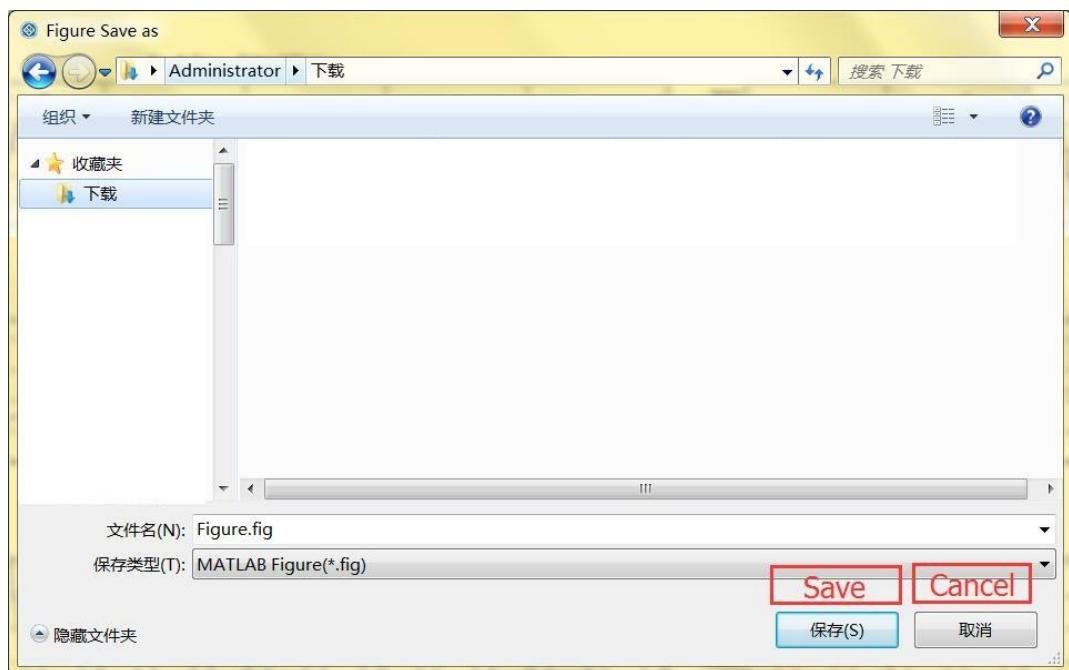

Fig. 50 Save plot
⑦ Save the simulation waveforms as shown in Fig. 50.
⑩Click ‘save plot’, save the simulation waveform, custom save location, as shown in Fig. 50.
⑪After the simulation, the user can find the corresponding folder to view the simulation results.